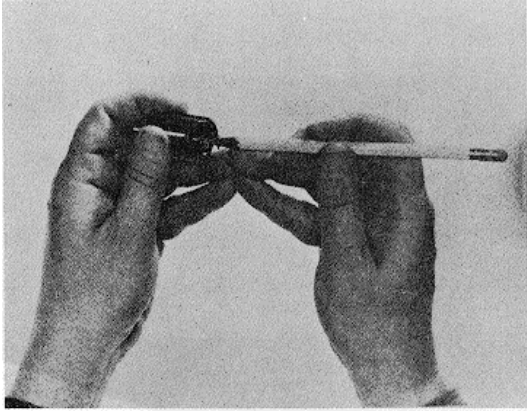
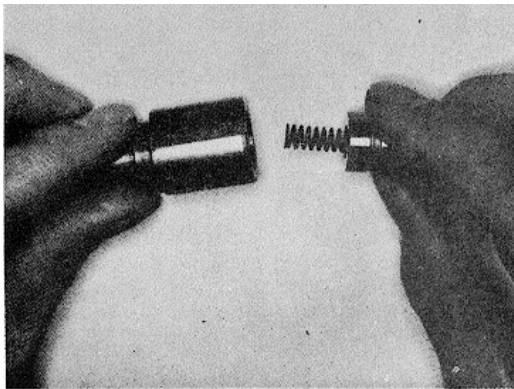

Fig. 5-97, F558. Installing washer over idle screw
Fig. 5-98, F559. Installing idle plunger button
1. Assemble idle screw into plunger guide, place small washer over screw point inside guide. Fig. 5-97. Place small idle spring into guide and place idle plunger (button) against spring in guide. Fig. 5-98.